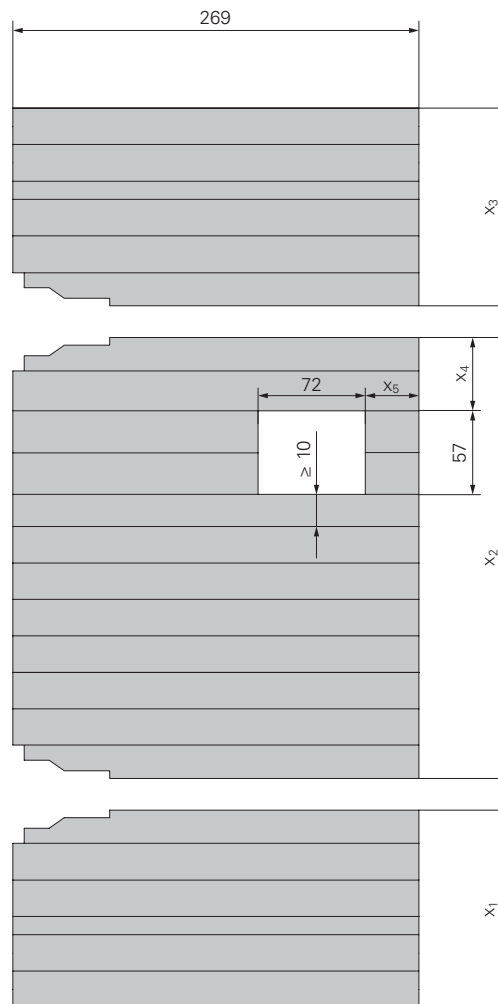

Fig. B4.11
For Climbing Shoe II ACS according to Fig. B4.11 + B4.12.
For Climbing Shoe-2 I ACS according to Fig. B4.11 + B4.13.
12. Fit the hatch (280), see "Fitting the descent hatch" on page 60. (Fig. B4.11)